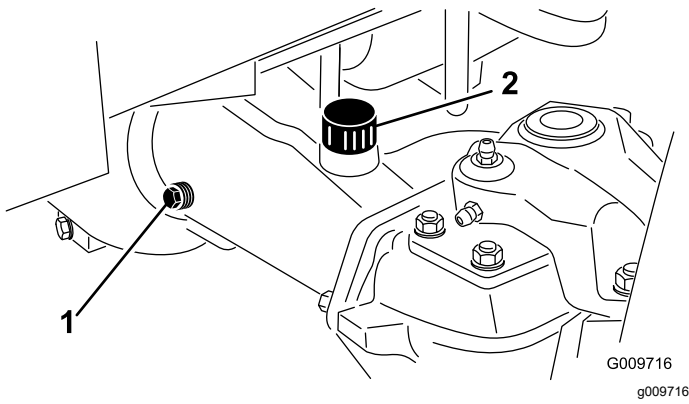

Figure 69
2. Remove a check plug from 1 end of the axle and ensure that the lubricant is up to the bottom of the hole (Figure 69).